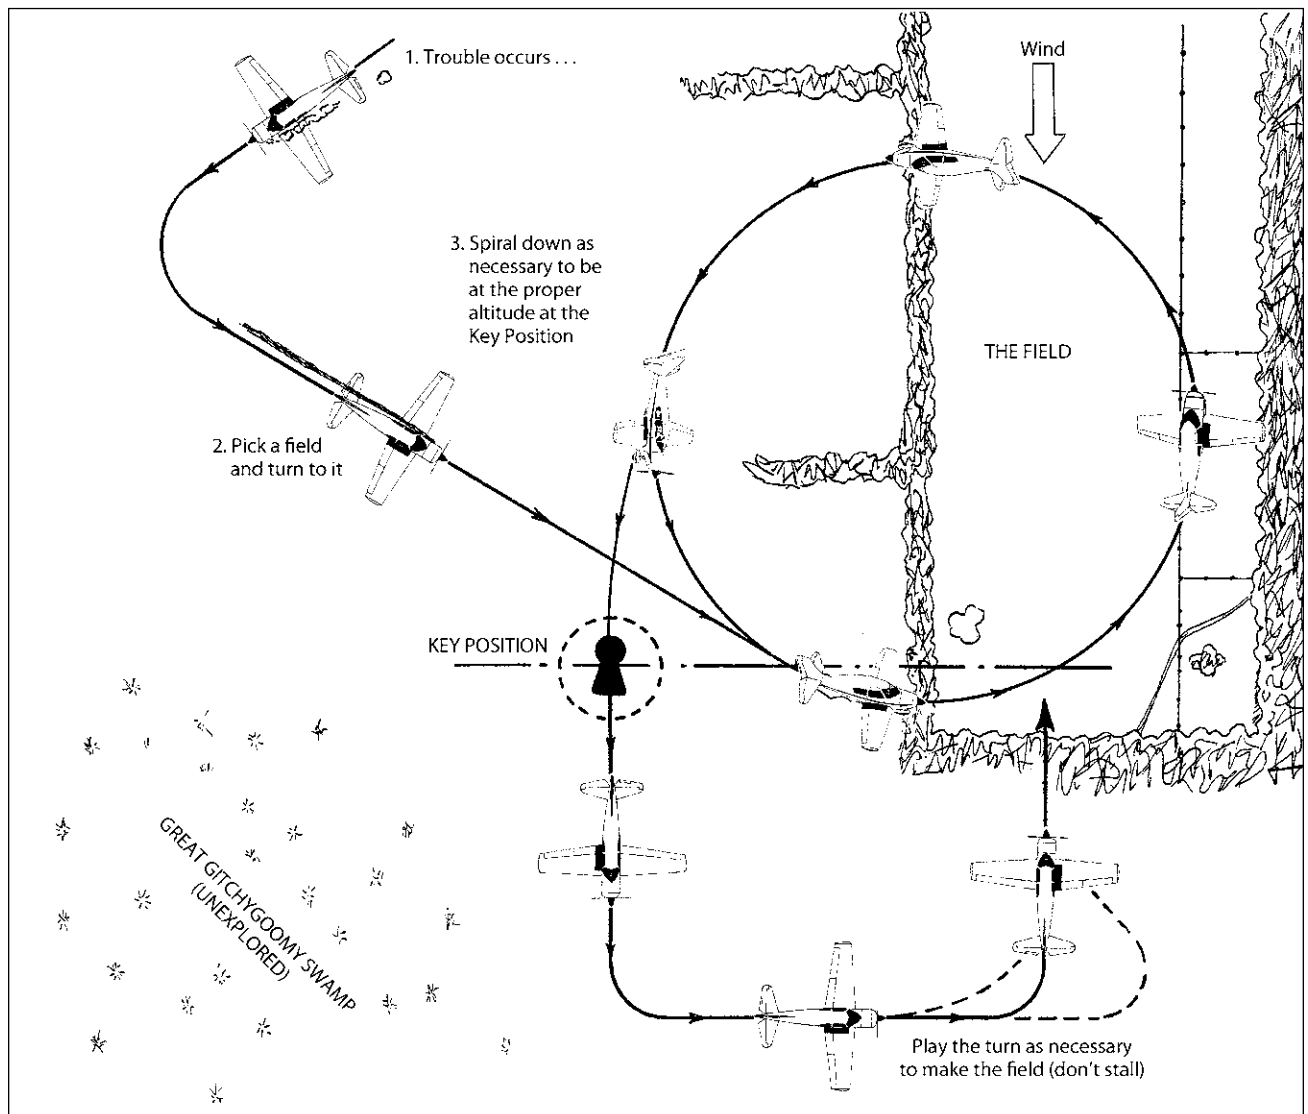

Figure 18-3. The key position helps to turn an unusual situation into one more familiar. Keep that glide speed constant.
1. When the engine stops, establish a normal glide. Carburetor heat ON. Pick the best field and turn to it (Figure 18-3). (Assume for this example that you can't correct the cause of the problem.) Maintain the normal glide speed throughout the exercise. This will give you the best glide ratio and the only means of knowing your glide path. If the speed is 70 K one minute and 50 K the next, who knows what the glide path will be?